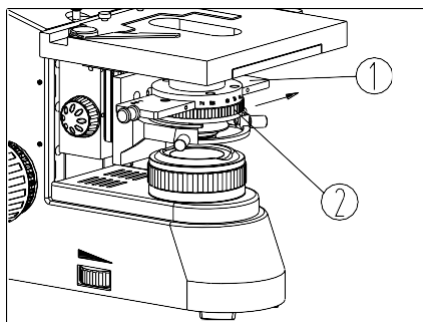

Fig. 36
(1) Keep the phase contrast flapper ① face up (upward the face with word), insert it from left to right into the condenser flapper socket as the direction of the arrow pointed (see Fig. 36).
(2) Every diaphragm or hole has its corresponding position, one diaphragm or hole is inserted into the center of optical path when it sounds “ka-da” during phase contrast flapper rotating.
(3) When observing phase contrast, keep the adjusting ring of the aperture diaphragm ② indicator to “PH” position.